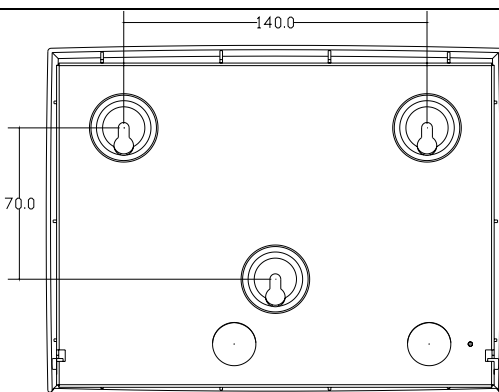

Fig. 4 Dimension (In: mm)
2. Mark the position for the 3 installation holes on a flat wall (Fig. 4), drill the holes, put expansion bolts in and insert the screws leaving a small gap for hanging the display.